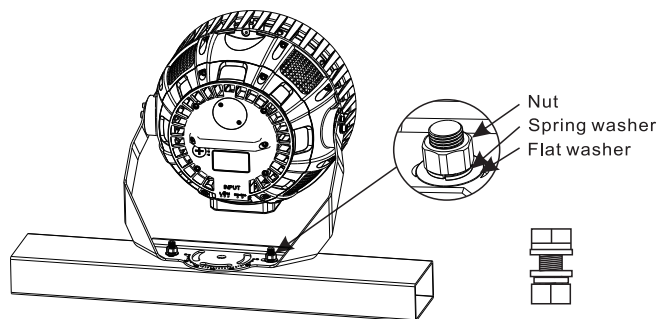

Figure 7
3. Install the luminaire on the crossbar and secure it with nuts, spring washers and flat washers (Figure 7)